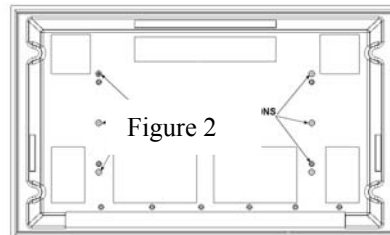

Figure 4
4. With the aid of another person, lift plasma display up to the Chief mount, aligning mounting buttons with the teardrop slots and setting into place (See Figure 4).